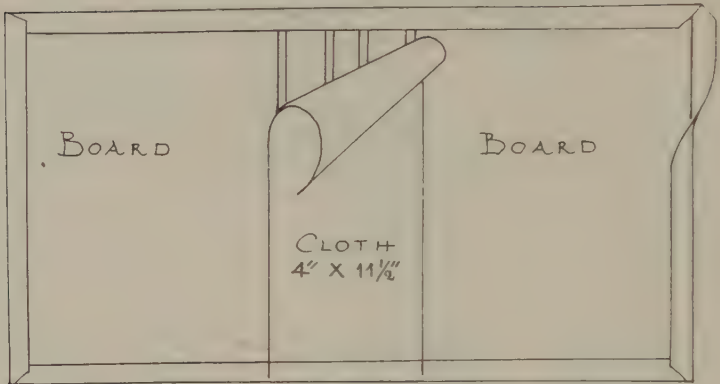

FIG. 100—MOUNTING CLOTH LINING OVER INSIDE SURFACE OF BOARDS
1. Glue-off reverse side of cloth and place over board joints from one large board to other. (Fig. 100.)